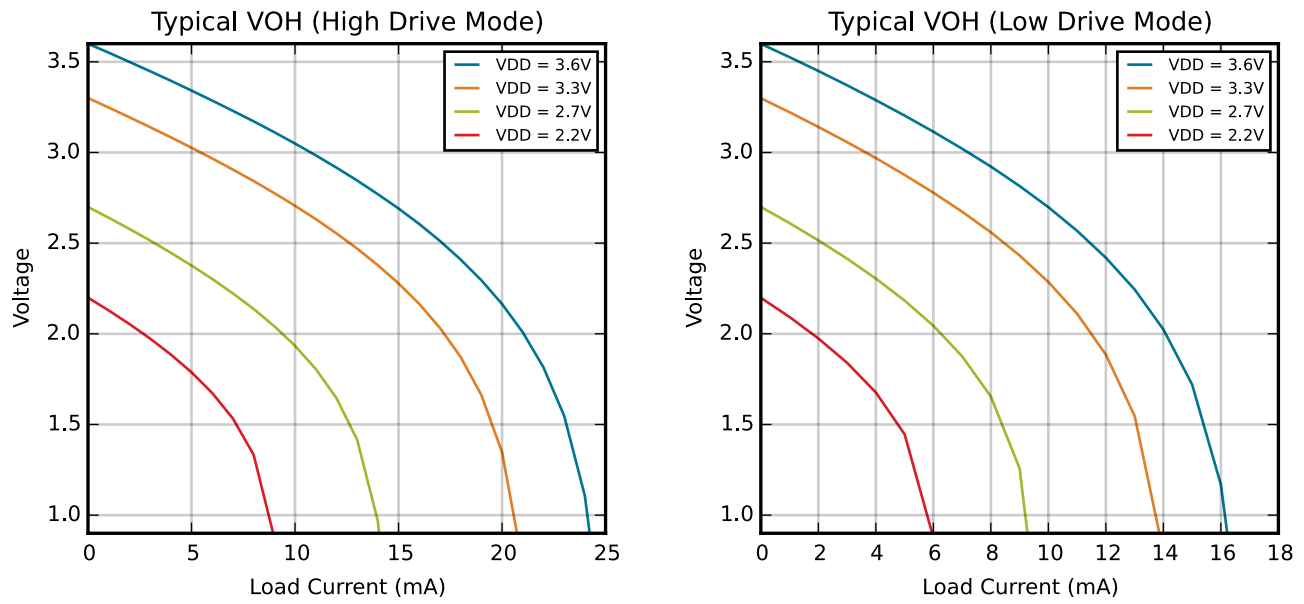
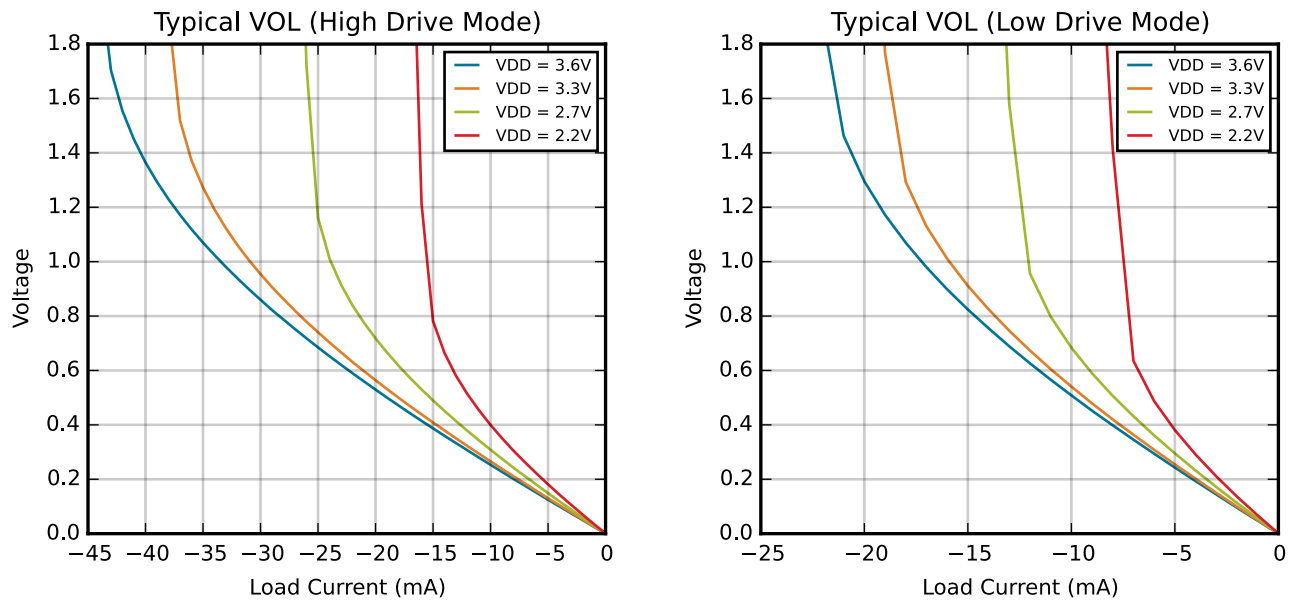

Figure 4.6. Typical  $V_{OH}$  Curves
Figure 4.7. Typical  $V_{OL}$  Curves
- See Figure 4.6 Typical VOH Curves on page 32 and Figure 4.7 Typical VOL Curves on page 32 for more information.